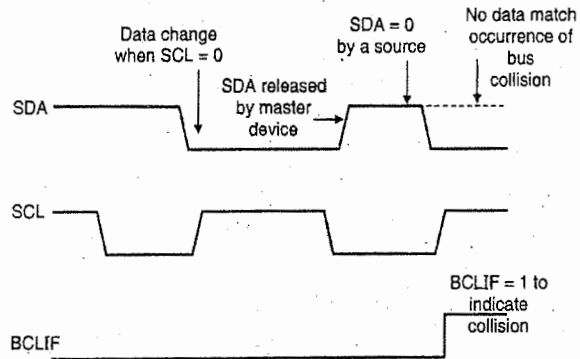

Fig 12.10.10 : Bus collision timing for transmission and acknowledge
- Fig. 12.10.10 shows bus collision for transmit and acknowledge.